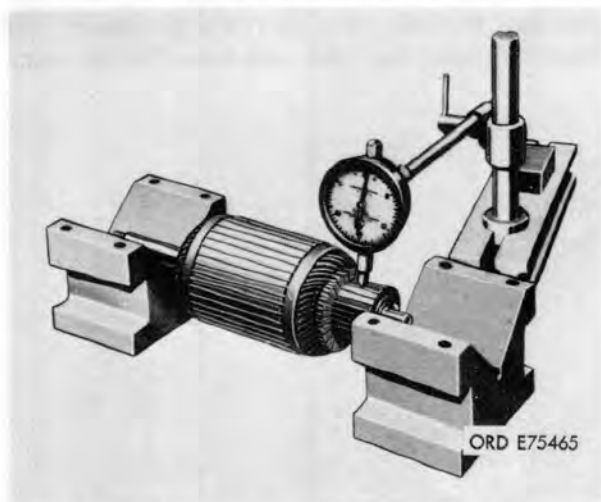

Figure 4-11. Checking commutator run-out.
- (1) *Visual.* Inspect commutator for roughness, grease and dirt, high mica, or evidence of burning. Inspect to see that windings are not loose from core and not unsoldered from commutator risers. Inspect bearing surfaces of armature for burs, pits, or excessive wear. Inspect armature shaft for straightness. Replace armature if shaft is bent. Inspect sealed ball bearings in accordance with TM 9-214.
- (2) *Commutator run-out* (fig. 4-11). Place armature in V blocks. Measure run-out using a dial indicator as shown in figure 4-11. Total indicated run-out must not exceed 0.001 TIR and variations between any two adjacent bars should not exceed 0.0003 inch. If run-out exceeds those limits, recondition commutator (*c* below).
- (2) If windings are unsoldered from commutator risers and the resulting opening has not caused the commutator to burn so badly that it cannot be repaired by turning, the winding may be soldered. Use a rosin core flux when soldering windings. Measure the accuracy of the refinished commutator using a dial indicator gage as shown in figure 4-11. Runout shall not exceed 0.001 inch, and